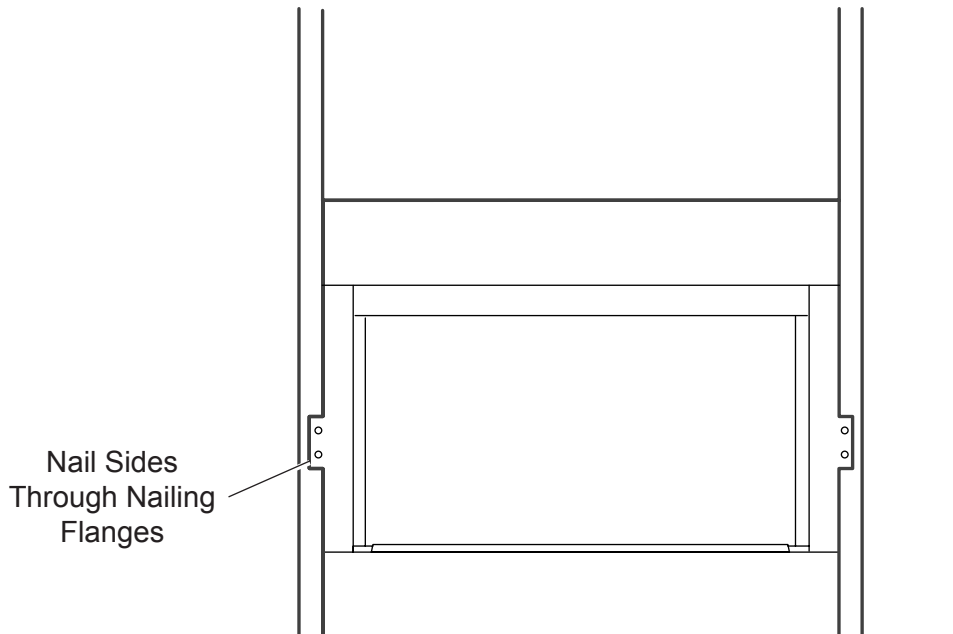

Figure 26 - Location of Nailing Flanges
4. Anchor firebox to the side framing members using 8d nails or other suitable fasteners. *See Figure 26.*